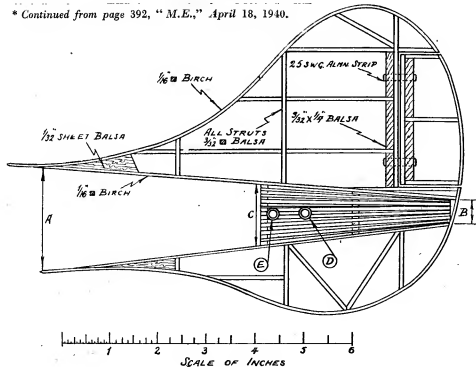
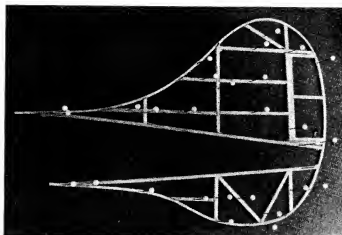
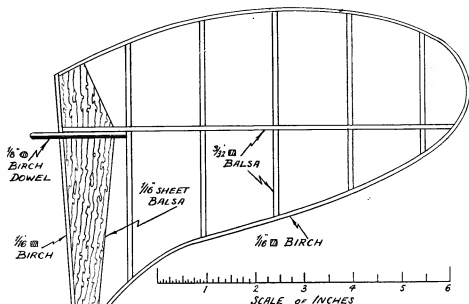

Fig. 151.
Fig. 152. First stage of rudder construction.
Fig. 154.
A start should be made on the tail fin. Measure the diameter of the extreme end of your fuselage (marked [B] in Fig. 151) and also the diameter at (C). Set these measurements out on a sheet of paper, and continue the
diverging lines to the point (A). This will form the basis for the drawing of the rudder and fin. Fig. 151 is exactly half scale, so that we may, from this, set out a full sized plan. The best method is to obtain a sheet of tracing paper large enough to cover Fig. 151, and, with a pencil, to draw a mesh of $\frac{1}{4}$ in. squares over the whole paper. This squared paper is now pinned down upon a board over Fig. 151. Next, take a sheet of drawing paper, and cover this in light pencil lines with a $\frac{1}{2}$ in. mesh. In this way the irregular outline of the fin and rudder at any point may be ascertained by noting the square, or portion of a square, at which the point lies, when it may be transferred to the equivalent $\frac{1}{2}$ in. square on the drawing paper. The scale will, of course, be automatically doubled in the process, and a fairly accurate outline of the full-sized fin obtained.
The outline being completed, the positions of the bracing struts and other components may be scaled off, and marked in. We should now have a drawing something like Fig. 151, but twice the size. I have roughly indicated the tail portion of the fuselage in this illustration, but you, of course, need not do this.
The framework of the rudder and fin is of $\frac{1}{16}$ in. square $\frac{1}{8}$ arch. This may be easily bent to shape in the steam from a kettle, after which the framework should be pinned down over the drawing in the manner indicated in Fig. 152. This picture shows the rudder in course of construction, and, in conjunction with Fig. 151, should render the building quite simple.
It will be seen that a small trimming fin is let into the rear of the rudder. Beyond cementing in the trimmer framework, do not worry about this at the moment. Build the rudder edge from one continuous length of birch; this may be cut through later to free the trimmer. Fig. 152 gives an exact idea of the work at this stage.
As the trimmer hinges on two small pieces of aluminium strip, it will be necessary to embed and cement these into the uprights of both rudder and trimmer (Fig. 151). The uprights should be carefully pierced with a broken safety razor blade before inserting the aluminium strips.
The diagram in Fig. 151 indicates the materials from which the rudder is made. Should the birch strip not
tubing which is cemented across the fuselage between stringers Nos. 4 and 5 on one side, and 12 and 13 on the other. The position of this tube is indicated at (D) in Fig. 151. The other tube shown in this drawing (marked [E]) does not pass right through the fuselage from one side to the other. It is really the end of a small piece of celluloid tube, about 3/16 in. long, which is cemented hard against the first former of the tail portion. On the other side of the fuselage there is a similar piece of tubing, and their purpose is to locate a bamboo peg which serves as an anchorage for the rear end of the rubber motor skein. Should celluloid tubing not be procurable, the tubes may be rolled from several wraps of gummed paper parcel tape,
Construction of the tail planes follows, generally, that used for the rudder. Fig. 154 is a half scale drawing of the right-hand plane. It will be remembered, of course, that planes are right and left handed; therefore, in preparing the drawings, one will be reversed. The outline will again be obtained by means of the squared paper system, and the positions of the struts marked out. As an aid to conformity in steaming the birch tail edging, it is advisable to bind, with cotton, two birch strips together, and to steam them in one operation. This ensures
that each tail plane is identical in shape with the other. The drawing of the tail plane in Fig. 154 shows the primary steps in construction, and when the job has progressed to this point it is in an equivalent stage of manufacture to the rudder shown in Fig. 152. When removed from the building board several additions must be made.